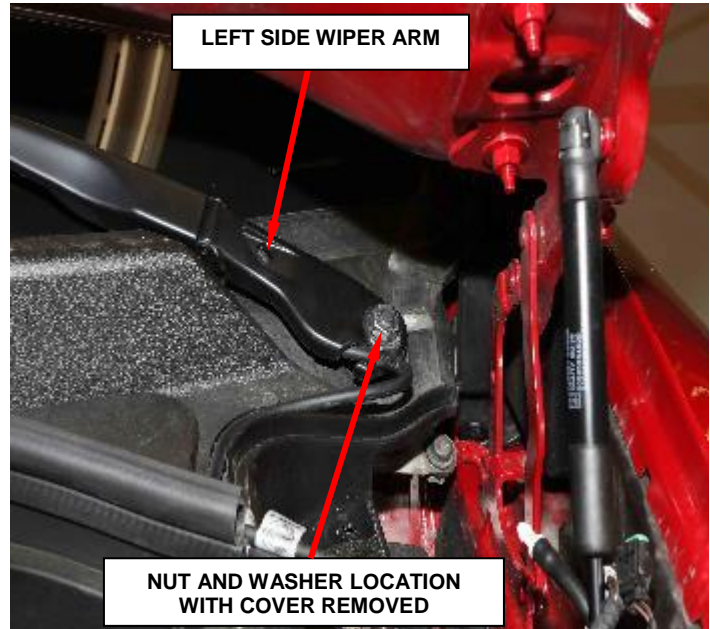

Figure 7 – Left Side Wiper Arm Nut
- f. Remove the nuts and the washers (Figure 7).